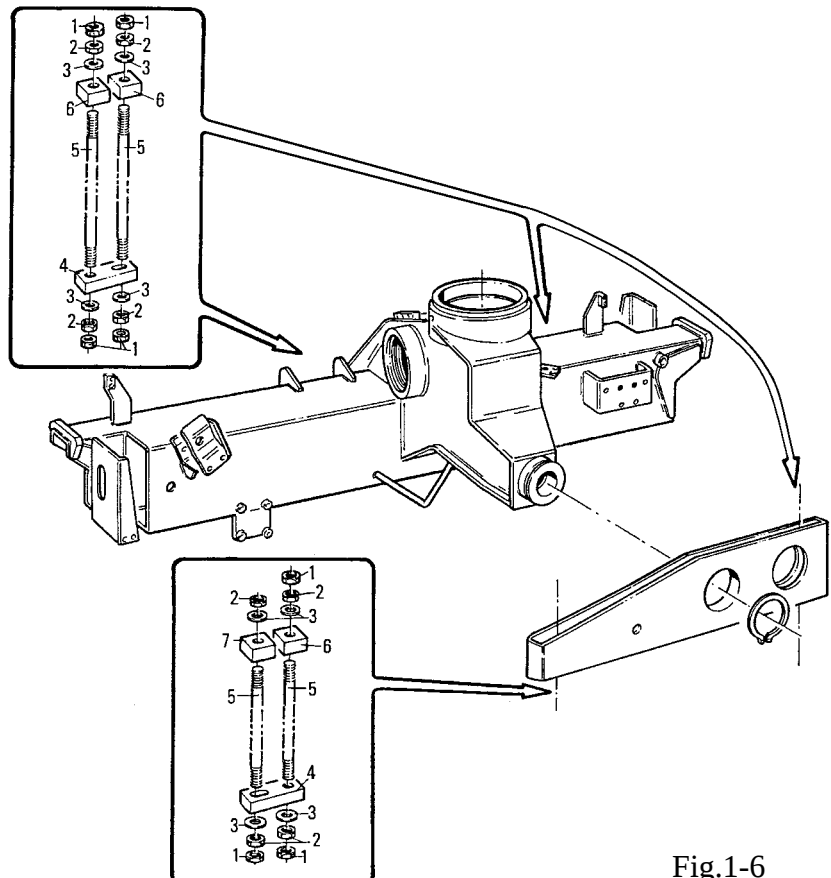

Fig.1-6
1.7 ANCORAGGIO (Fig. 1-6)
1.7 ANCHORAGE (fig. 1-6)